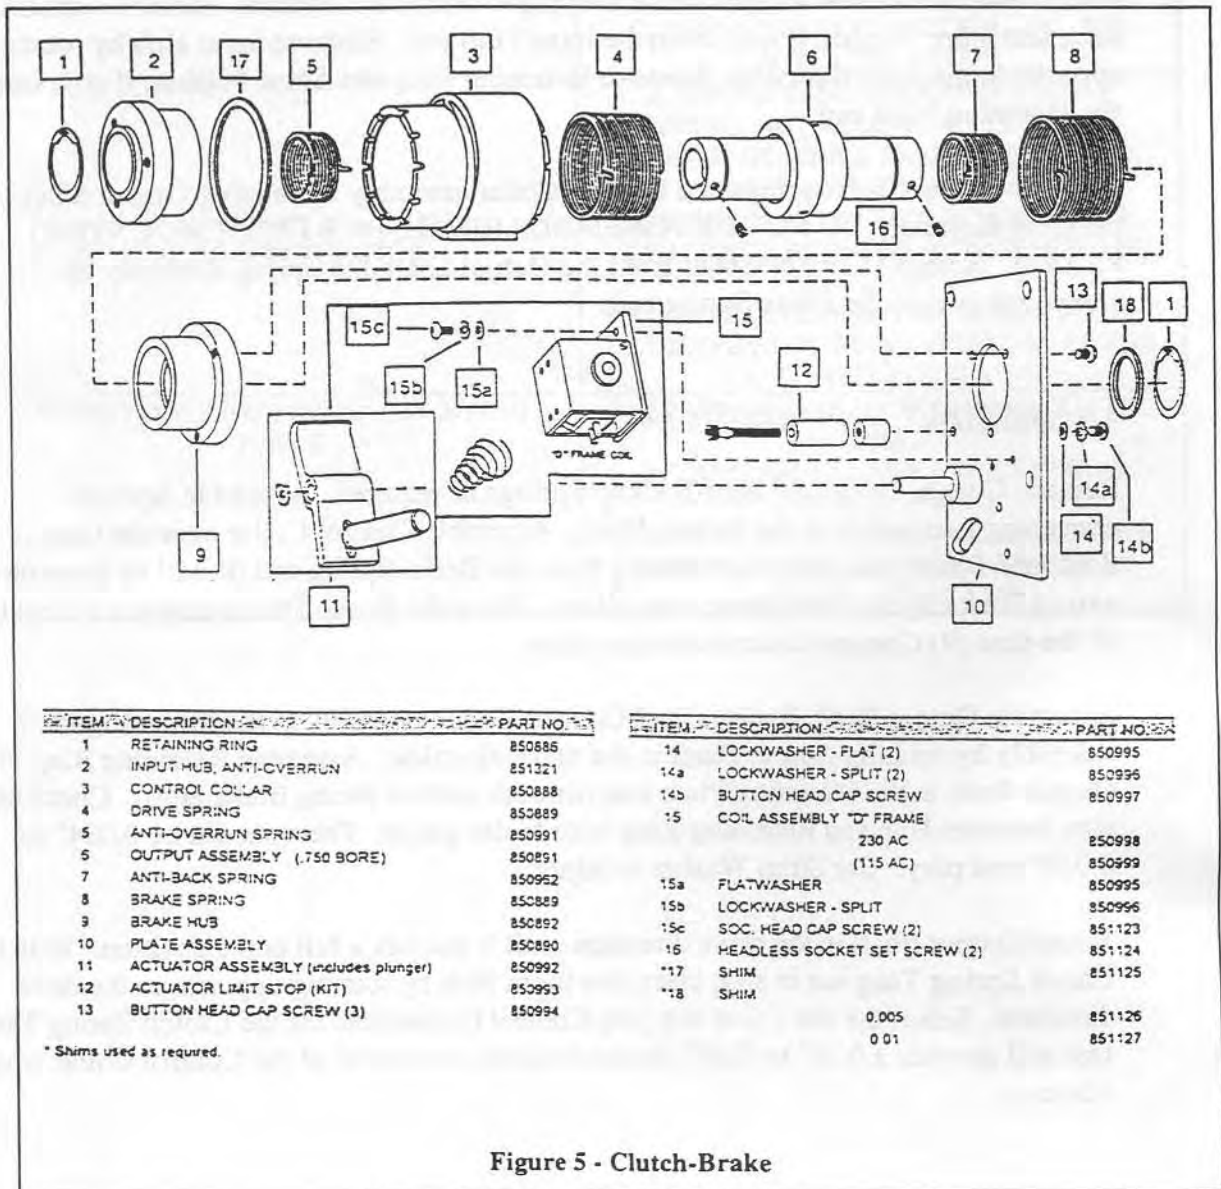

Figure 5 - Clutch-Brake
6.3 DISASSEMBLY (See Figure 5)
6.4 ASSEMBLY (See Figure 5)